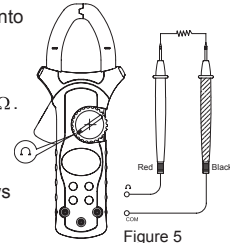

Figure 5
D. Measuring Resistance (See Figure 5)